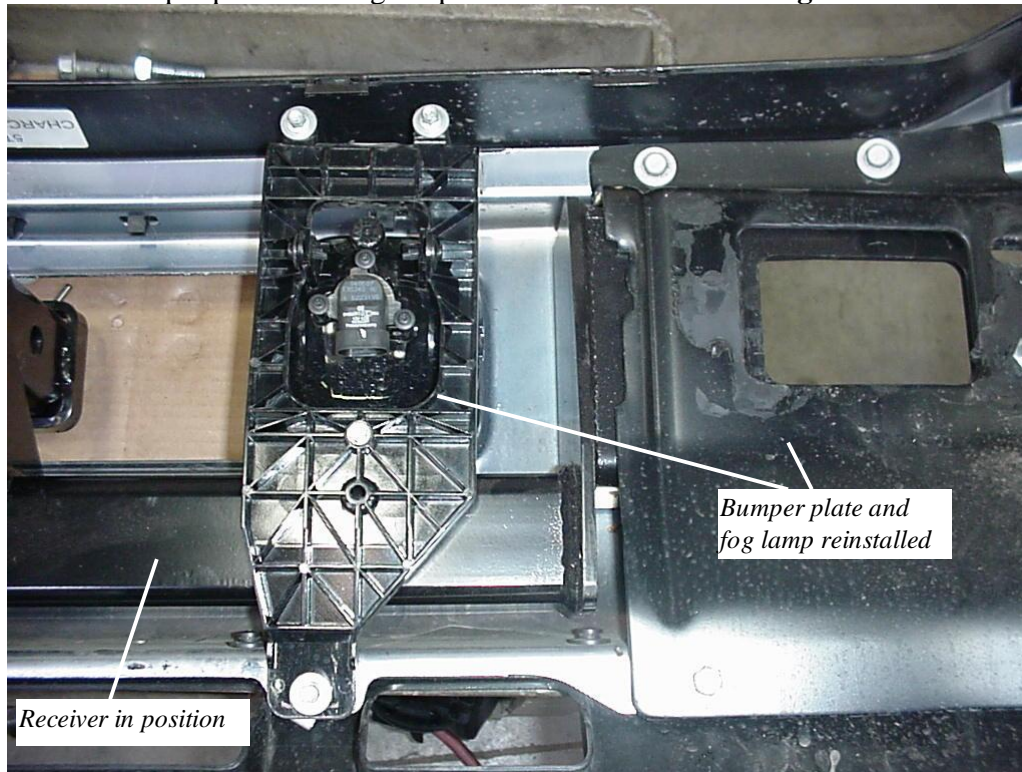

Figure 5 Rear of bumper, RH
9. Reinstall the bumper plates and fog lamps over the Receiver. **See Figure 5**